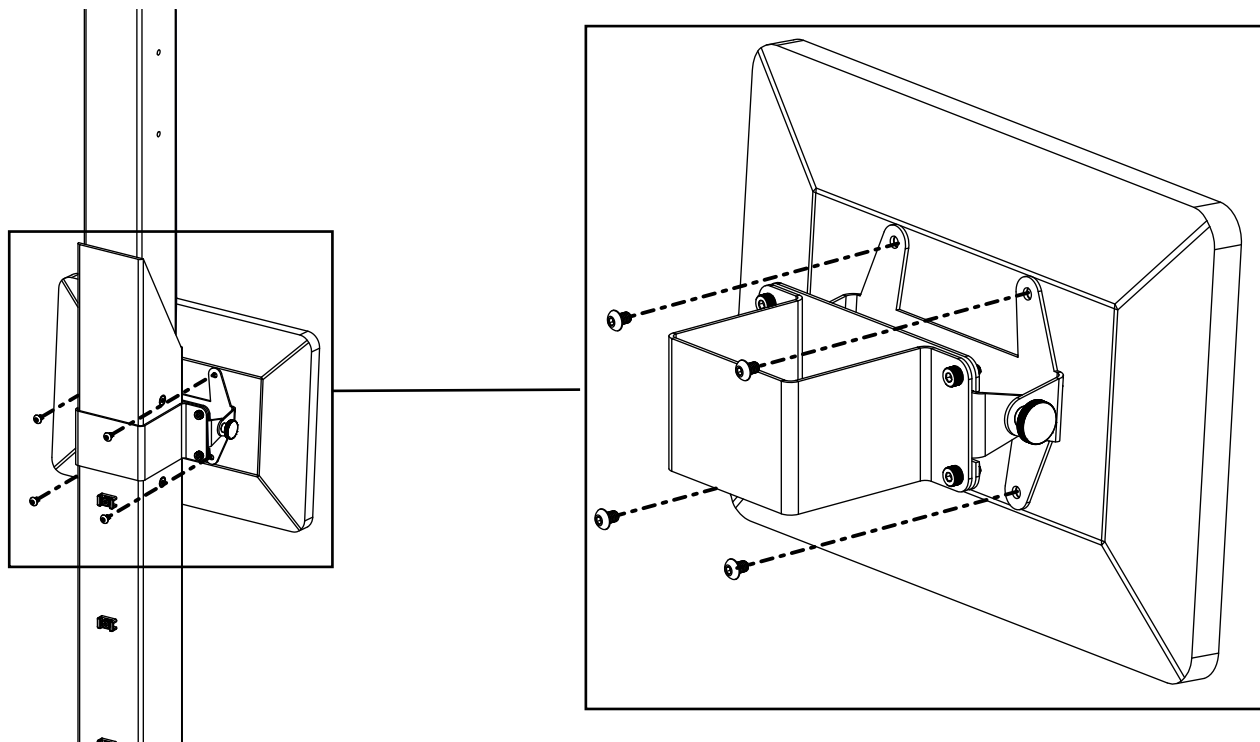

Figure 3-7. Install Display Mounting Bracket
**NOTE:** The display mounting bracket is pre-installed on the lower column. In Figure 3-7 the column is removed for mounting hardware clarity.